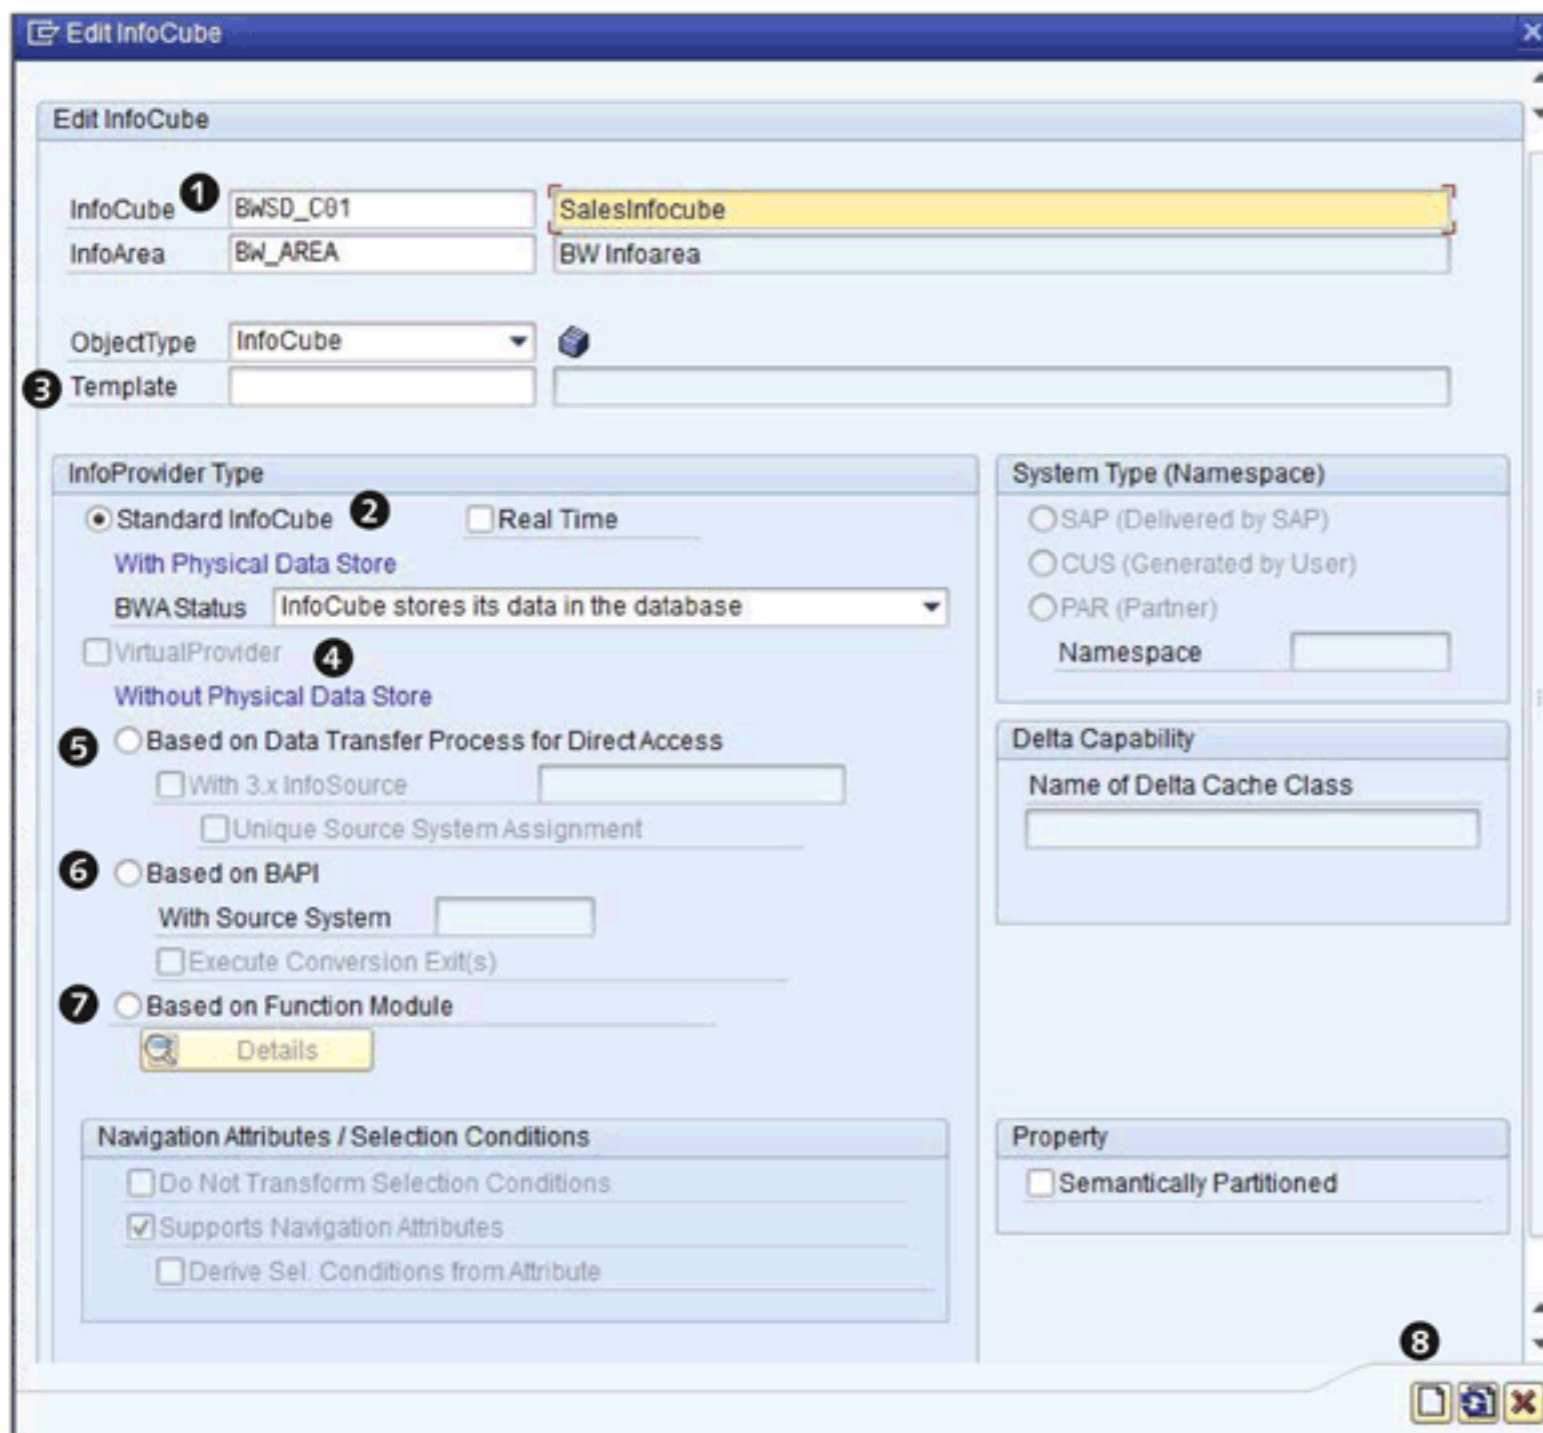
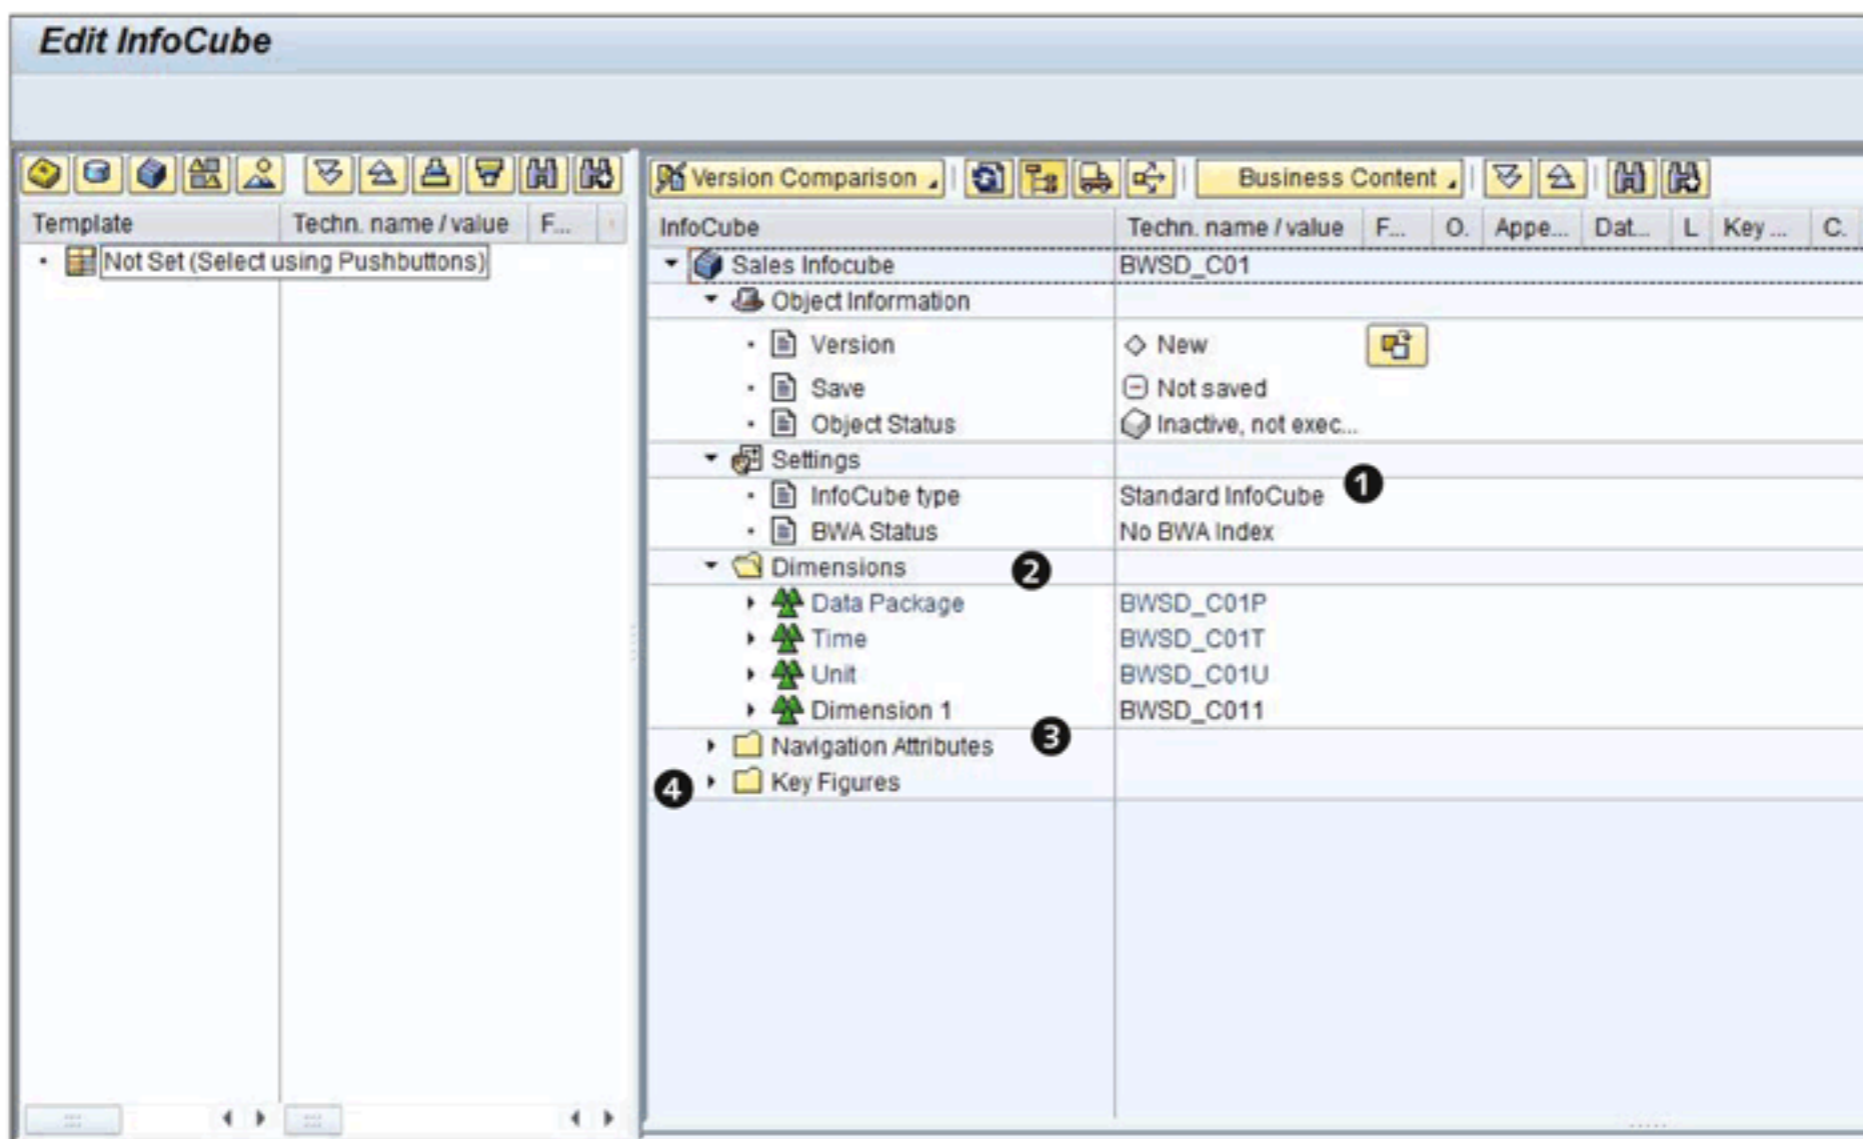

Figure 5.8 Edit InfoCube
Figure 5.9 Edit InfoCube: Initial Screen
InfoCubes are created under an InfoArea. Select the InfoArea under which you want to create your InfoCube (❷). From the context menu, select CREATE INFOCUBE (❸). The EDIT INFOCUBE screen appears, as shown in Figure 5.8.
Enter the technical name and description of the InfoCube (❶ of Figure 5.8). In our example, the InfoCube's technical name is BWSD_C01, and its description is SALES INFOCUBE. You can also use an existing InfoCube as a template to create a new InfoCube by entering the technical name of the existing InfoCube in the COPY FROM field, as shown in ❸ of Figure 5.8.
For our example scenario, select STANDARD INFOCUBE, and click on the CREATE icon, as shown in 8 of Figure 5.8. This takes you to the screen where you define the InfoCube (Figure 5.9).
The right side of the screen in Figure 5.9 is the area where you can maintain the InfoCube definition. There are different sections visible on this screen, as follows:
This section shows the type of InfoCube (❶ of Figure 5.9).